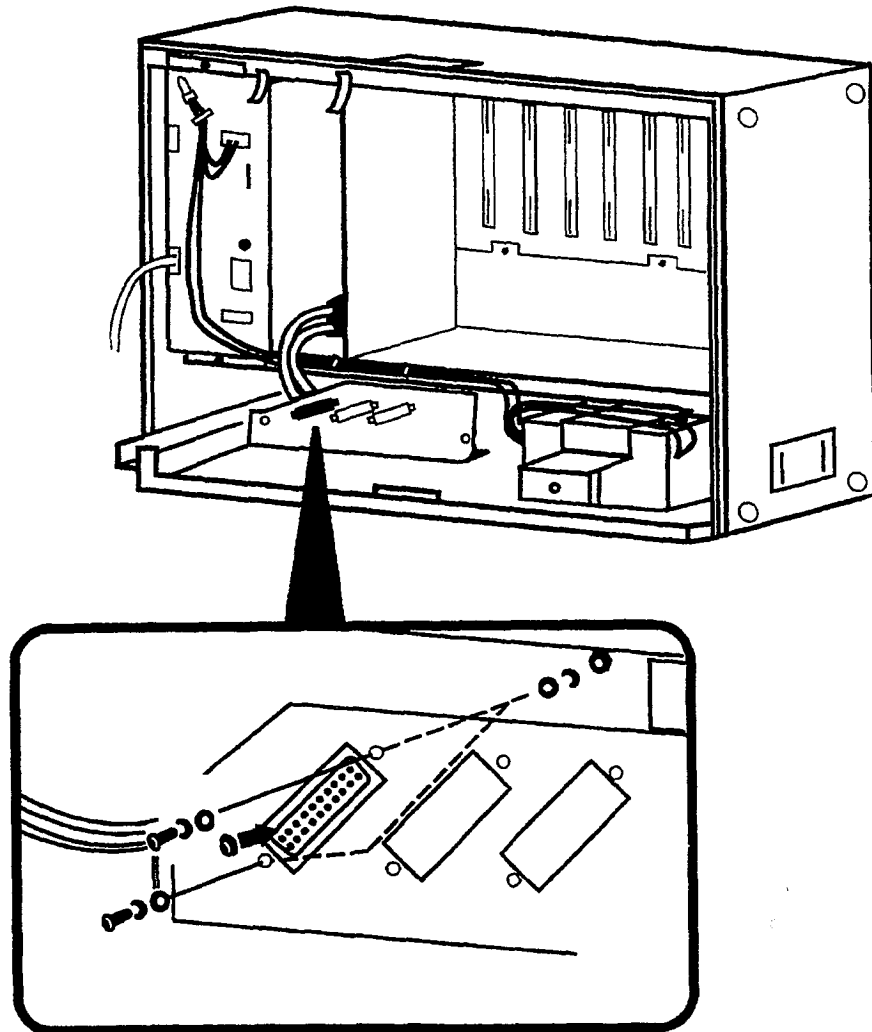

Figure 2-62 Connecting the MIF Cable Assembly and the MIF-F(L)-10 KTU to the ESF-H-10 KSU
The MIF-F(L)-10 KTU can be installed into an Option Slot (OP) or into one of the four Interface/Option Slots (IF1/OP1 ~ IF4/OP4), in the ESF-H-10 KSU. This KTU is shipped with two cable assemblies (MIF cable assembly). One end of each cable has an RJ45 (8-pin) connector. The other end of the cable terminates at an RS-232 connector. This connector must be mounted in the KSU. Refer to Figure 2-62 - Connecting the MIF Cable Assembly and the MIF-F(L)-10 KTU to the ESF-H-10 KSU.
3. Connect the MIF Cable Assembly to CN8 on the MIF-F(L)-10 KTU and the KSU. Refer to Figure 2-62 - Connecting the MIF Cable Assembly and the MIF-F(L)-10 KTU to the ESF-H-10 KSU.
3. Connect the MIF Cable Assembly to CN7 and CN10 on the MIF-F(L)-10 KTU and the KSU. Refer to Figure 2-62 - Connecting the MIF Cable Assembly and the MIF-F(L)-10 KTU to the ESF-H-10 KSU.